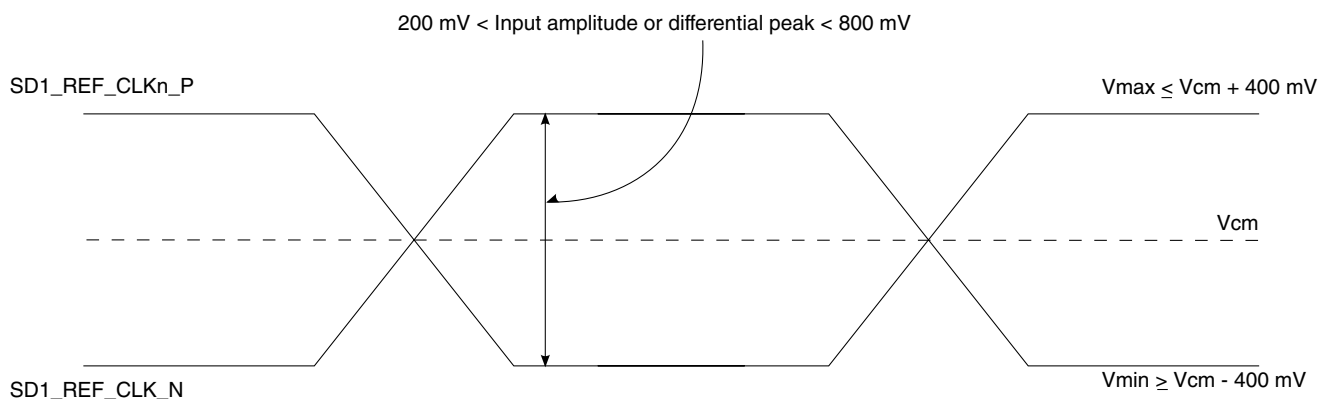

Figure 64. Differential reference clock input DC requirements (external AC-coupled)
- For an external AC-coupled connection, there is no common mode voltage requirement for the clock driver. Because the external AC-coupling capacitor blocks the DC level, the clock driver and the SerDes reference clock receiver operate in different common mode voltages. The SerDes reference clock receiver in this connection scheme has its common mode voltage set to SGNDn. Each signal wire of the differential inputs is allowed to swing below and above the common mode voltage (SGNDn). Figure 64 shows the SerDes reference clock input requirement for AC-coupled connection scheme.